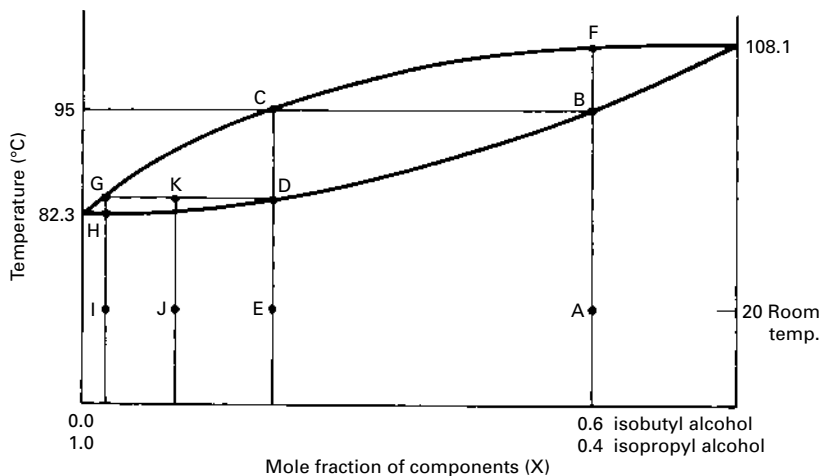

FIGURE 34.2 Temperature–mole fraction diagram for the isobutyl–isopropyl alcohol system.
At this point, you're usually given the temperature-versus-mole-fraction diagram for two miscible liquids (Fig. 34.2), and you're told it's a consequence of Raoult's law. Well, yes. But not directly. Raoult's law is a relationship of *pressure*, not temperature, versus mole fraction, and this law is pretty much a straight line. You don't need all your orbitals filled to see that you've been presented with a *temperature-versus-mole-fraction* diagram, there are *two lines* (not one), and neither of them is very straight.
The only variables in this beast are the mole fraction (X_A) and the temperature (T). Every other symbol is a constant. Finally, we have the equation for the bottom line of the temperature–mole fraction diagram (Fig. 34.2), something that has eluded us for years.
What about the upper curve in Figure 34.2? Glad you asked (sigh). The composition in the vapor is also related to Dalton’s law of partial pressures. For an ideal gas, $PV = nRT$ (and you thought you’d never see that again!), and for the vapors above the liquid,
Getting back to the temperature–mole fraction diagram (Fig. 34.2), suppose that you start with a mixture such that the mole fractions are as follows: isobutyl alcohol, 0.60; isopropyl alcohol, 0.40. On the diagram, that composition is point A at a room temperature of 20°C. Now you heat the mixture, and you travel upward from point A to point B. The liquid has the same composition; it's just hotter.
You can calculate the number of theoretical plates in your column if you distill a two-component liquid mixture of known composition (isobutyl and isopropyl alcohol, perhaps?) and collect a few drops of the liquid condensed from the vapor at the top of the column. You need to determine the composition of that condensed vapor, usually from a calibration curve of known compositions versus their refractive indices (see Chapter 29, “Refractometry”), and you must have the temperature–mole fraction diagram (Fig. 34.2).
One last thing. There’s a point *F* on the temperature–mole fraction diagram in Figure 34.2 that I haven’t bothered about. *F* is the grade you’ll get when you extend the *A–B* line up to cut into the upper curve and you then try to do anything with this point. I’ve found an amazing tendency for some people to extend that line to point *F*. Why? Raise the temperature from *A* to *B*, and the sample boils. *When the sample boils, the temperature stops going up*. Heat going into the distillation is being used to vaporize the liquid (heat of vaporization, eh?), and all you get is a vapor, enriched in the lower-boiling component, with the composition found at the end of a *horizontal* tie-line.